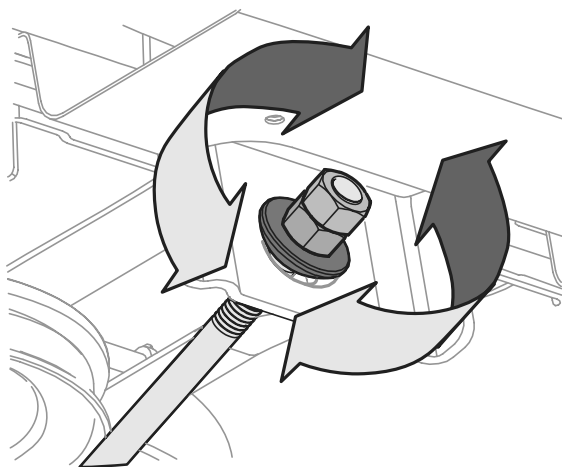

Figure 37
4. To **raise** the front of the deck, loosen the outer nut then tighten (thread inward) the inner nut against the front hanger bracket (Figure 37). When proper adjustment is achieved, re-tighten the outer nut to 25-30 ft-lbs (34 mm-41 N-m).
5. To **lower** the front of the deck, loosen the outer nut then loosen (thread outward) the inner nut, away from the front hanger bracket (Figure 37). When proper adjustment is achieved, re-tighten the outer nut.